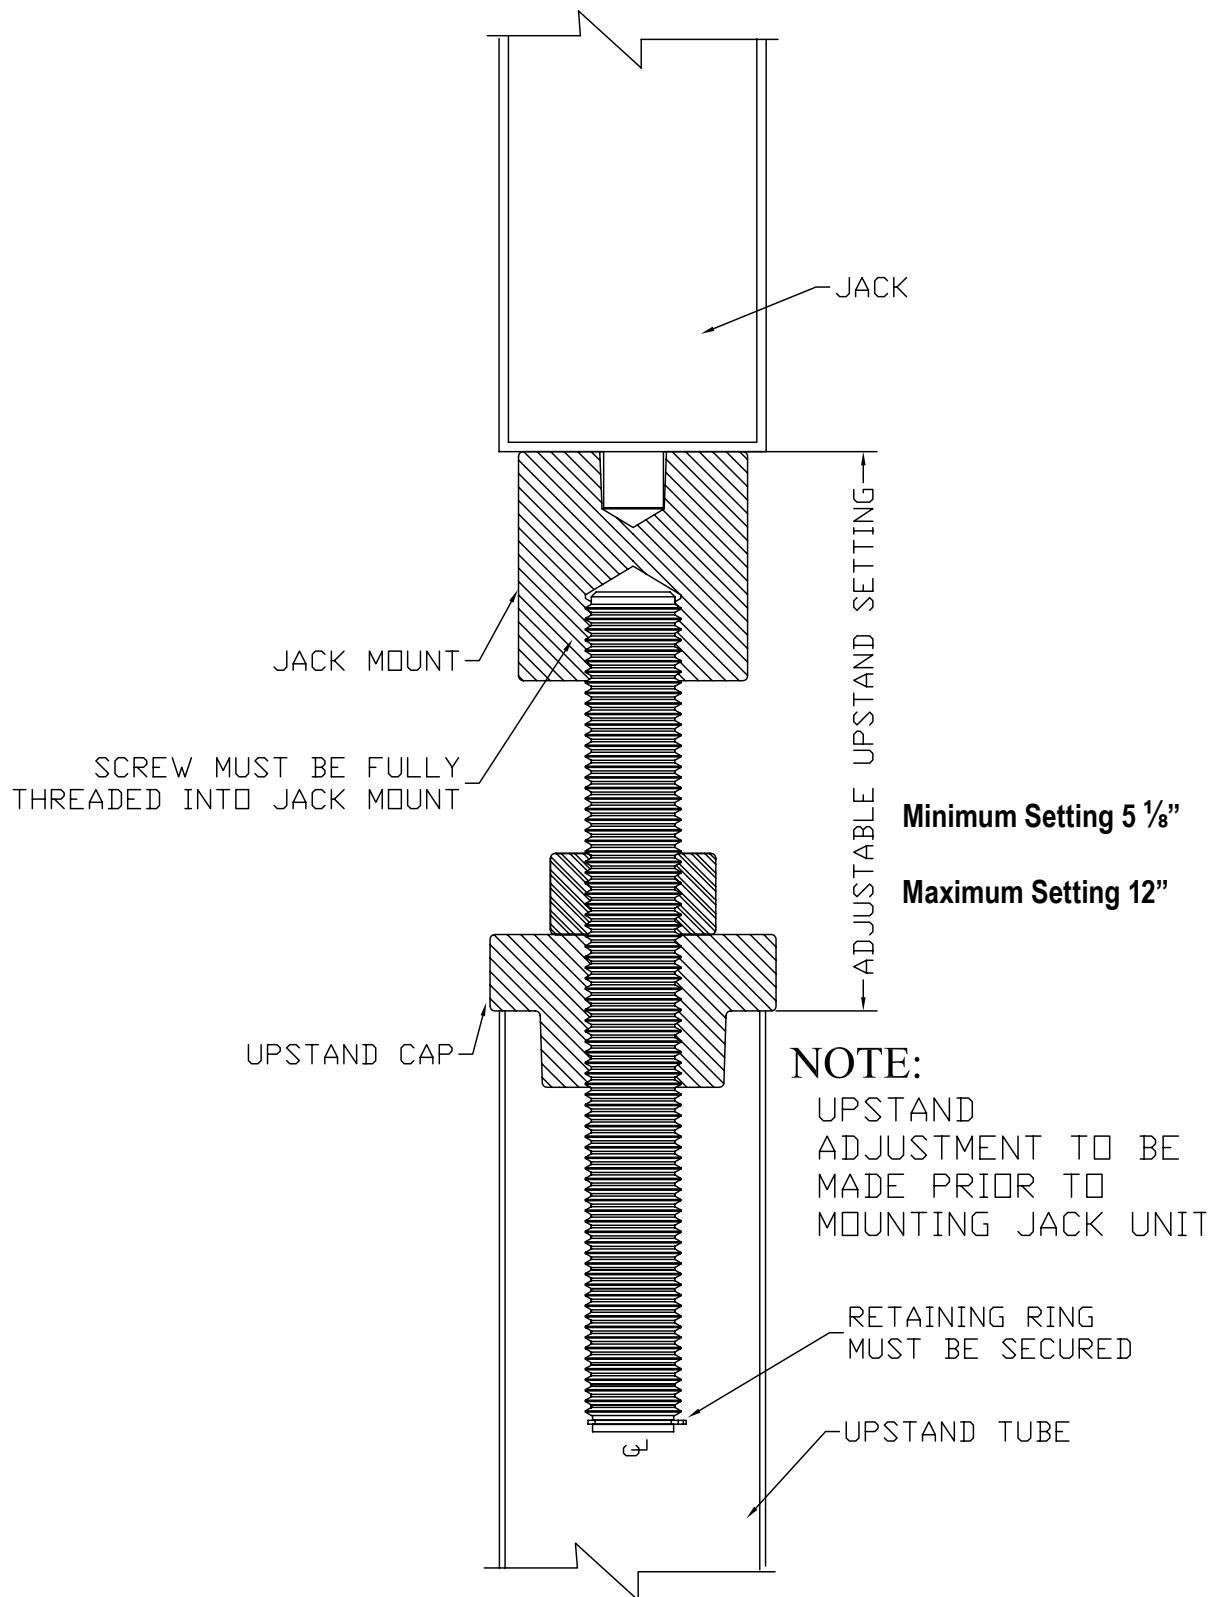

Figure 28 Detail of Adjustable Upstand Post
- 2) To adjust the upstand post to the required height (Figure 28):